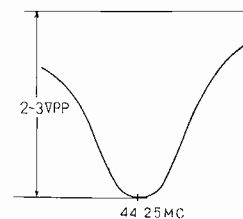

Figure 8
- i) Adjust upper and lower cores of TL-52 to produce on the oscilloscope the waveform such as shown in Fig. 8. The output of the sweep generator should be adjusted to produce about 2-3 Vpp. It is convenient to adjust them simultaneously with two drivers in case of which, upper one will be changed the position of the peak, and lower one will be changed the slope of it.